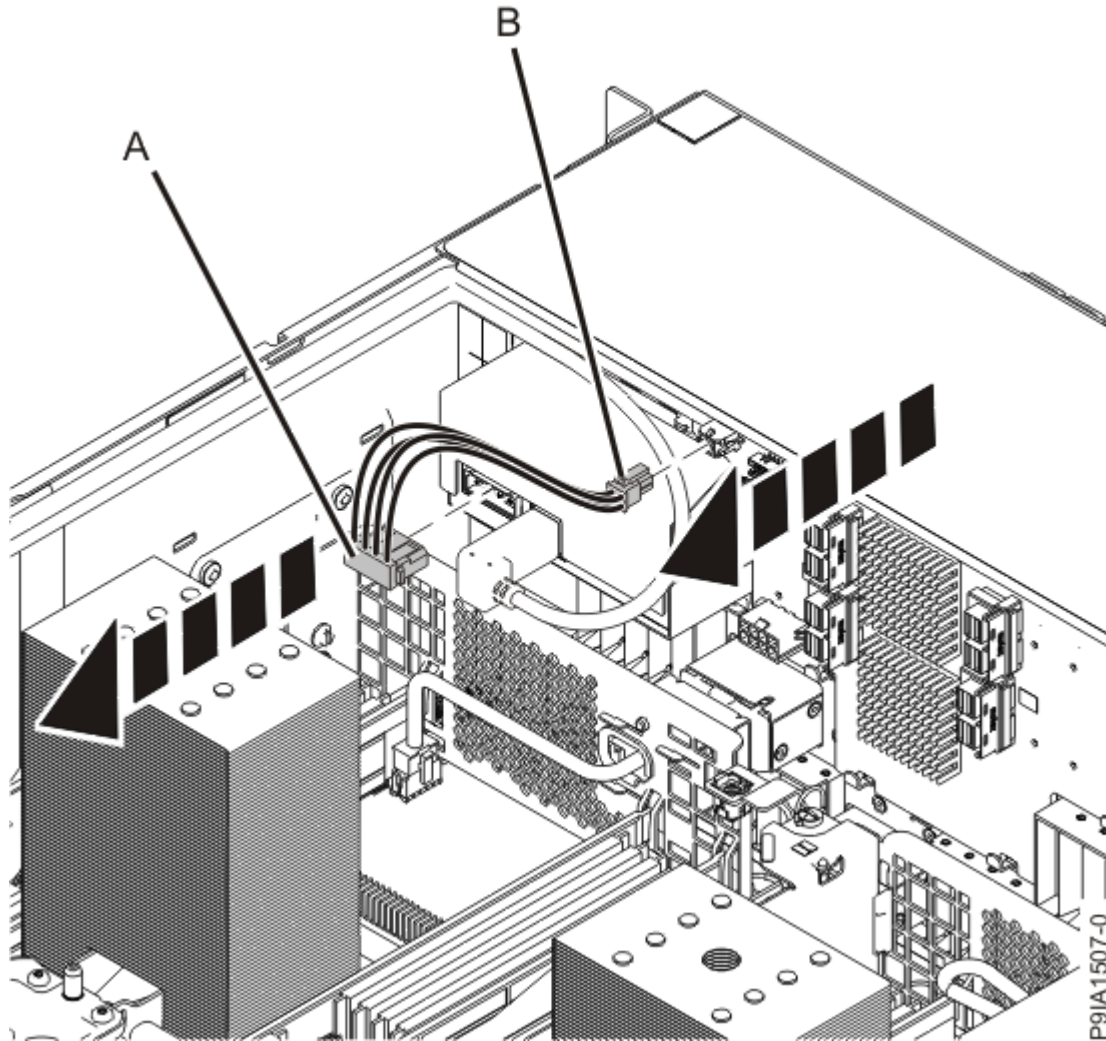

Figure 54. Disconnecting the internal RDX power cable
3. Disconnect the internal RDX power cable **(B)** from the disk drive backplane. Disconnect the other end of the internal RDX power cable **(A)** from the internal RDX docking station as shown in Figure 54 on page 64.